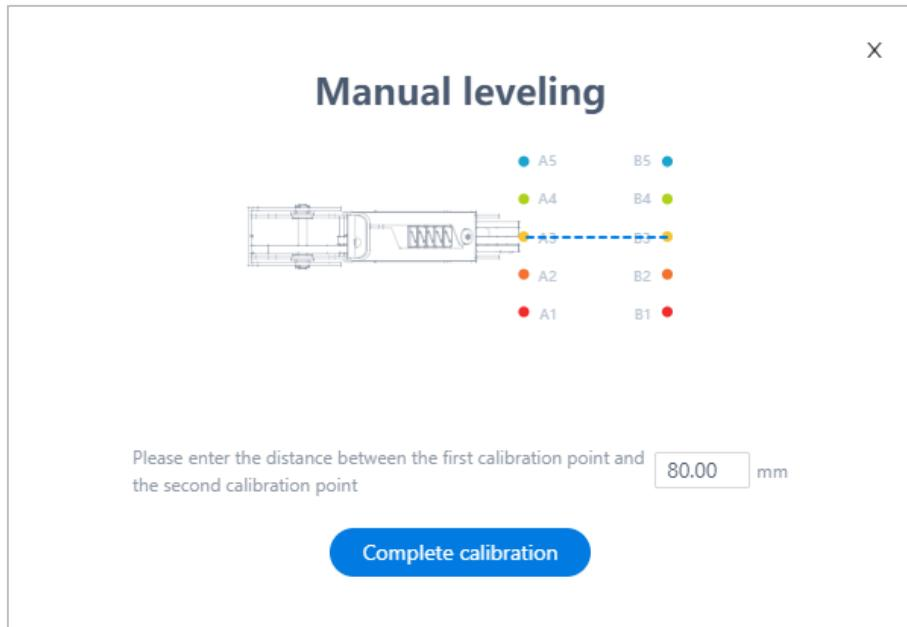

Figure 5.125 Set the distance between two calibrated points
**Step 9** Set the distance between the two calibrated points, as shown in Figure 5.125. As the distance between the two calibrated points on the calibration board is 80mm, please keep the default value in this step.